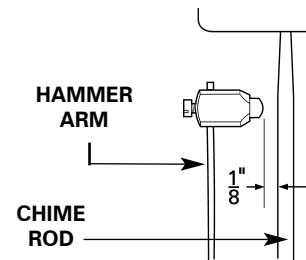

FIGURE 20
**CHIME ROD** hammer arms are made of brass and can be safely bent. If necessary, adjust hammers so that they do not interfere with each other while moving or striking the chime rods. This is accomplished by bending the hammer arms slightly in the middle so that each hammer rests approximately 1/8" from each rod. (See figure 20). **DO NOT** bend the chime rods. Chime volume cannot be adjusted on a chime rod movement.